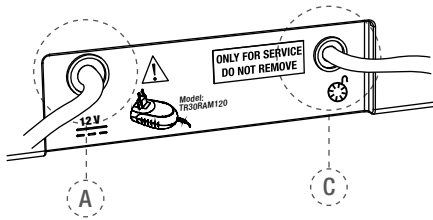

Fig. 2 Back of central unit
- Insert the connector of the battery charger in jack connector (A – see Fig. 2) at the back of the device (for details see chapter 7.3.3).
- Plug the foot pedal cable into the jack, located on the back of the device (C – see Fig. 2).
Flashing orange: Battery charger is correctly connected to socket (A – see Fig. 2) at the back of the device and battery is charging.